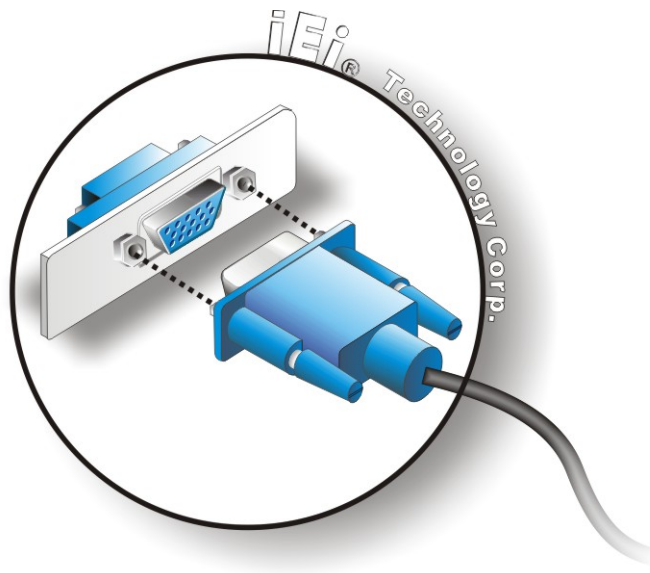

Figure 5-27: VGA Connector
- Step 3:** **Insert the VGA connector.** Once the connectors are properly aligned with the insert the male connector from the VGA screen into the female connector on the NANO-945GSE. See **Figure 5-27**.